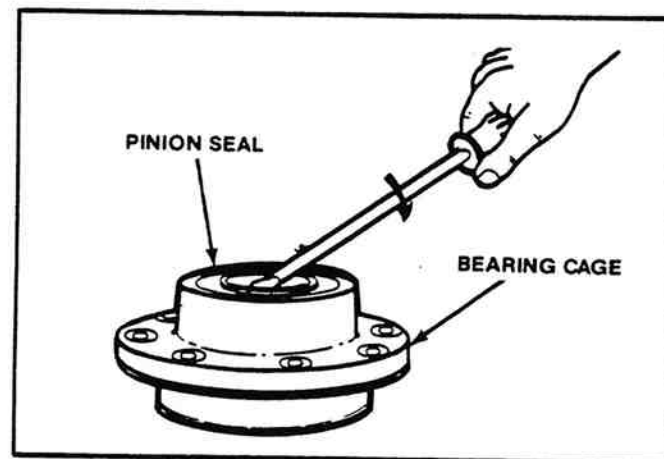

Figure 2-28. Removing Pinion Seal.
3. If the pinion seal is mounted directly in the outer bore of the bearing cage, remove the seal at this time. Use a screwdriver or small pry bar for removal. After the seal is removed, lift the outer bearing cone from the cage (Figure 2-28).